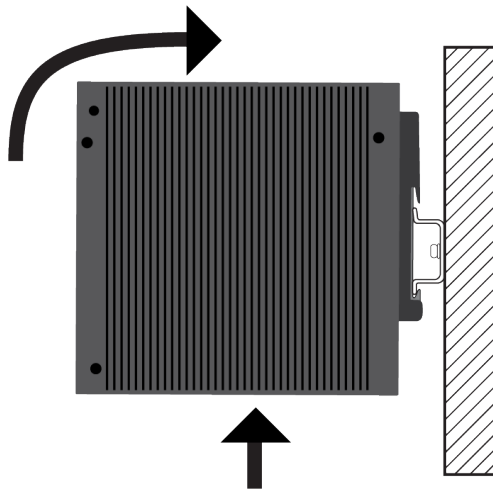

Figure 28. Installing the Switch on a DIN Rail - 2
3. Press upwards on the bottom panel of the switch to compress the springs on the DIN rail bracket, and pivot the switch until vertical. Refer to Figure 28.